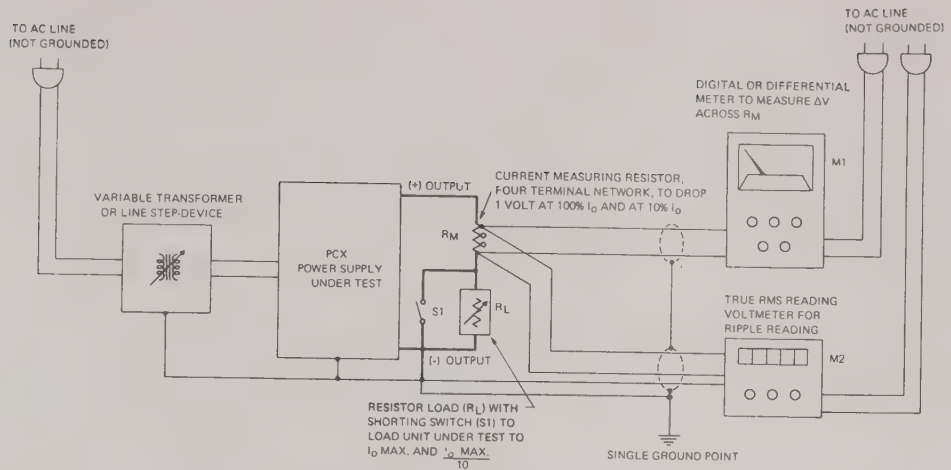

FIG. 5-4 TEST SET-UP FOR CURRENT REGULATION MEASUREMENTS
- c) **MEASUREMENT OF OUTPUT EFFECTS DUE TO AC INPUT SOURCE VARIATIONS.** Set up test setup as shown in FIG. 5-4. Measure output effect by varying the AC line between the specified limits and noting the deviation (ΔV) on the meter across R_m . The output effect due to AC input source variations is specified in percent of the maximum rated output current.
- d) MEASUREMENT OF OUTPUT EFFECT DUE TO LOAD VARIATIONS. Retain the test setup shown in FIG. 5-4. Set the AC input source to 115 V AC. Measure output effect by opening and closing the load switch (S1) and noting the deviation (ΔV) on the meter across R_m . The output effect due to load variations is specified in percent of the maximum rated output current (and in μA):
Careful wire dressing and shielding, as well as good signal grounding, are of the utmost importance to get valid results. (Use single ground point as shown in FIG. 5-4.)